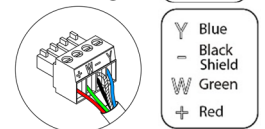

Fig. 22
- ③ It has a 4-pin terminal to connect the thermostat . Attach the wires with the terminal screws following the color code (Fig. 22).